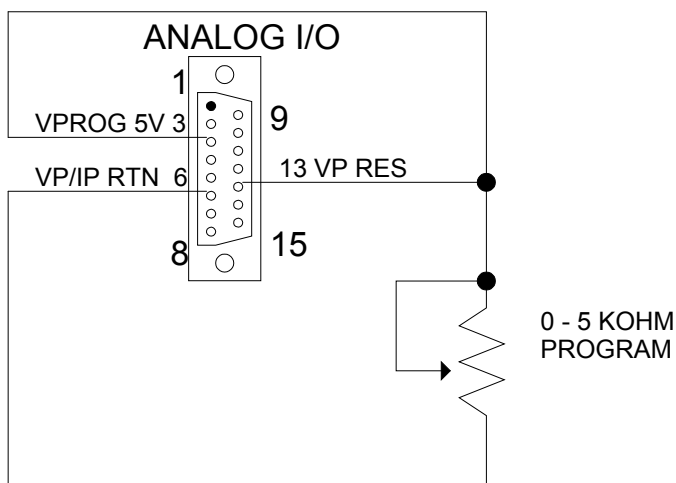

Figure 5-2: Remote Voltage Programming Using Resistance
- External Voltage Programming using a resistor. The resistance coefficient for remote voltage programming is 5k ohms/100% of rated output voltage with respect to the (ISO VP/IP RTN), pin 6. The programming current from pin 13 (VP RES) is 1 milliamp through a 5 V DC supply. This yields a coefficient of 1.0% of rated output current for each 50 ohms. If multiple switches or relays are used to program different levels, make-before-break contacts are recommended. See Figure 5-2 for connection requirements.
- External Voltage Programming using an external current source. This is similar to the use of a voltage source except the available current source is converted to a voltage source by using an external resistor. If the current source is fixed, a variable resistor will result in a voltage input to the RPV input proportional to the resistor setting. See Figure 5-2 for connection requirements.
4. External Current Programming using an external current source. This is similar to the use of a voltage source except the available current source is converted to a voltage source by using an external resistor. If the current source is fixed, a variable resistor will result in a voltage input to the RPI input proportional to the resistor setting. See Figure 5-2 for connection requirements.